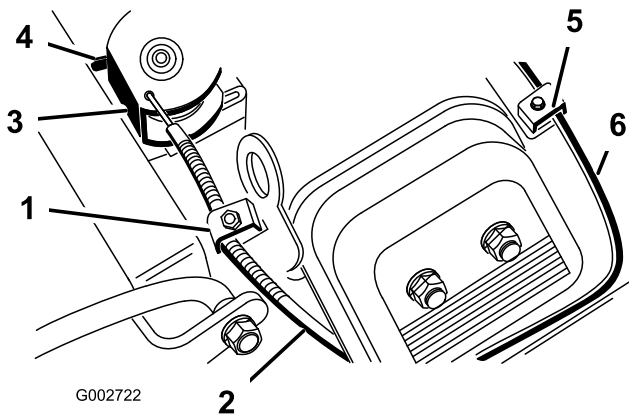

Figure 39
2. Loosen the throttle cable-clamp screw securing the cable to the engine (Figure 39).
4. Pull firmly on the throttle cable until the back of the swivel contacts the stop (Figure 39).
2. Loosen the choke cable-clamp screw securing the cable to the engine (Figure 39).
4. Pull firmly on the choke cable (Figure 39) until the choke butterfly is completely closed; then tighten the cable-clamp screw.